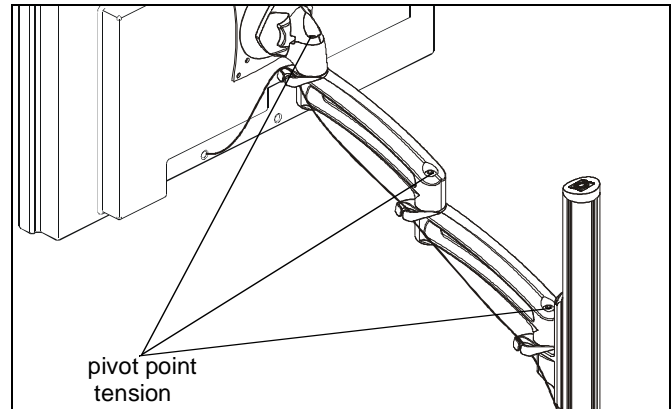

Figure 25
1. Adjust pivot position as desired. (See Figure 25)
2. Adjust pivot point tension screws to change pivot adjustment tension. (See Figure 25)